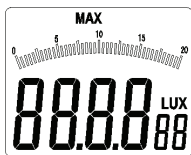

Figure 5-1-4B
- Cover the opto-sensor with the visor, and press and hold “HOLD/ ZERO” key for one second, “ADJ” will appear on LCD interface (as shown in figure 5-1-4B), then the device will enter the zero calibration mode. Several seconds later, “ADJ” on LCD interface will disappear, and zero calibration mode will automatically exit and return to auto measurement mode.